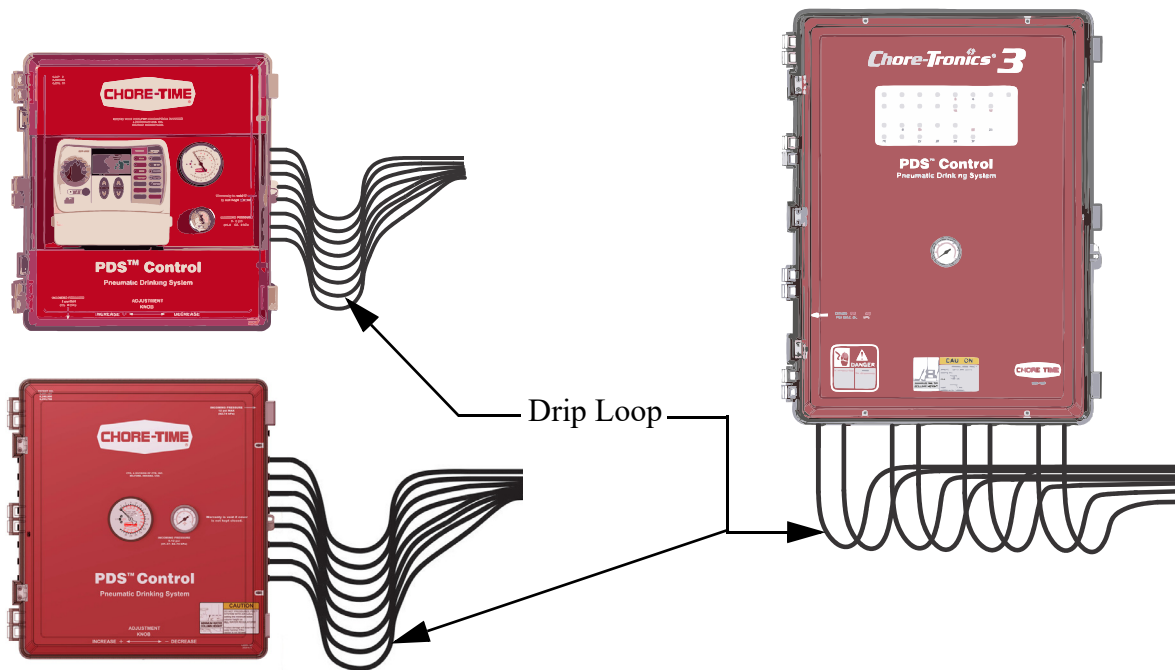

Figure 13. Regulator Tube Leads
2. Route the regulator tubing with a drip loop so any condensation in the air lines will not run into the control. (See **Figure 13.**)